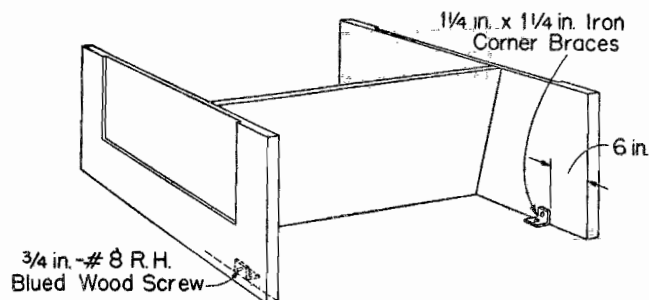
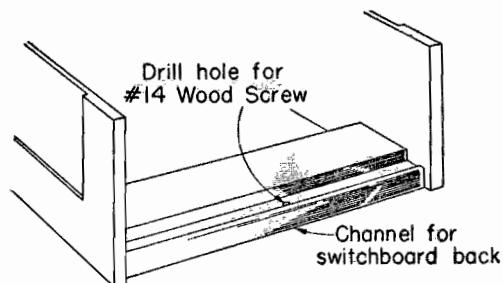

Fig. 1—Front-Fastening Information
Fig. 2—Back-Fastening Information
- 3.09 Fasten to floor where practicable by means of 1 1/4-in. by 1 1/4-in. or equivalent iron corner braces, placing one at the base of each end panel on the inside and approximately 6 inches from the front as shown in Fig. 1. Also fasten rear of PBX to floor with one No. 14 F. H. Steel Wood Screw or equivalent installed in base of channel for PBX backboard panel as shown in Fig. 2.
- 3.13 Fasten each platform to the floor where practicable by means of the four corner angle iron details as shown in Fig. 3 or by 1 1/4-in. by 1 1/4-in. iron corner braces installed similar to Fig. 1 in the front and two 1 1/4-in. by 1 1/4-in. iron corner braces placed approximately 6 inches from each end of the platform on the rear.